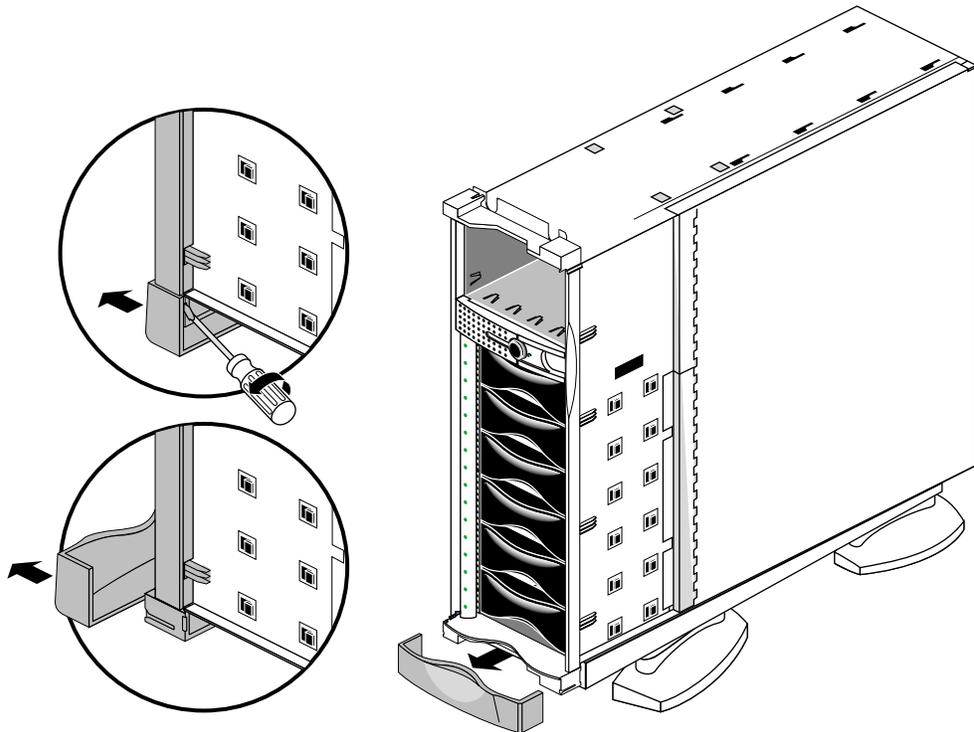

Figure 5-9 Removing the Lower Bezel
- Insert a flat-blade screwdriver between one side of the lower bezel and the sheet metal, as shown in Figure 5-9.